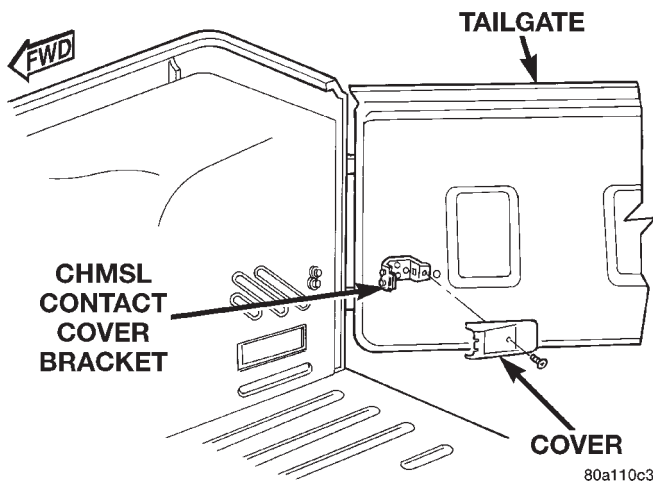

Fig. 81 CHMSL Contact Cover
- (1) Remove the spare tire.
- (2) Open the tailgate and remove the CHMSL contact cover (Fig. 81).
- (3) Disengage the CHMSL electrical connectors.
- (4) Remove the screws that attach the tailgate hinge to the tailgate.
- (5) Separate the tailgate from the vehicle.